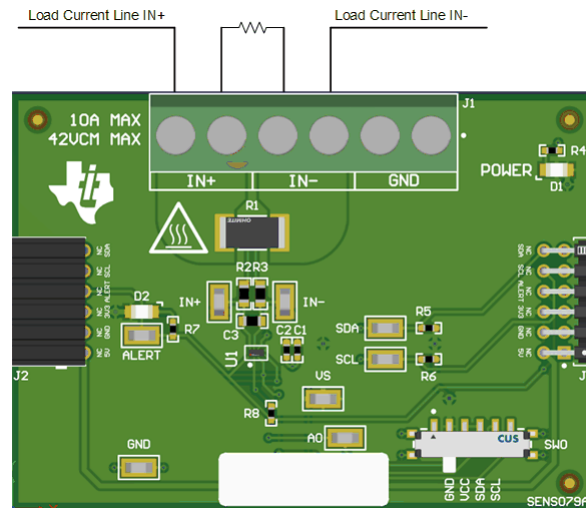

Figure 4-11. IN+ and IN- Wiring With a Shunt Resistor
- b. Connect an external shunt across the IN+ and IN- terminals of J1, preferably across pins 4 and 5, as shown in Figure 4-11.